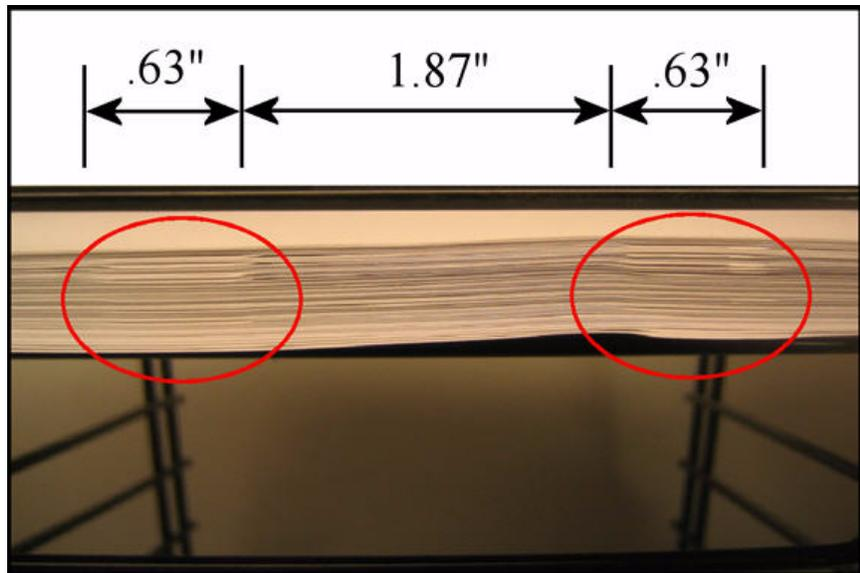

Figure 3.3 Damage from Exit Pinch Rollers
**Root cause:** The lead edge damage displayed in Figure 3.3 occurs when sheets exiting the punch path strike the upper Exit Pinch Rollers with upwards curl. The lead edge will be damaged in two areas.